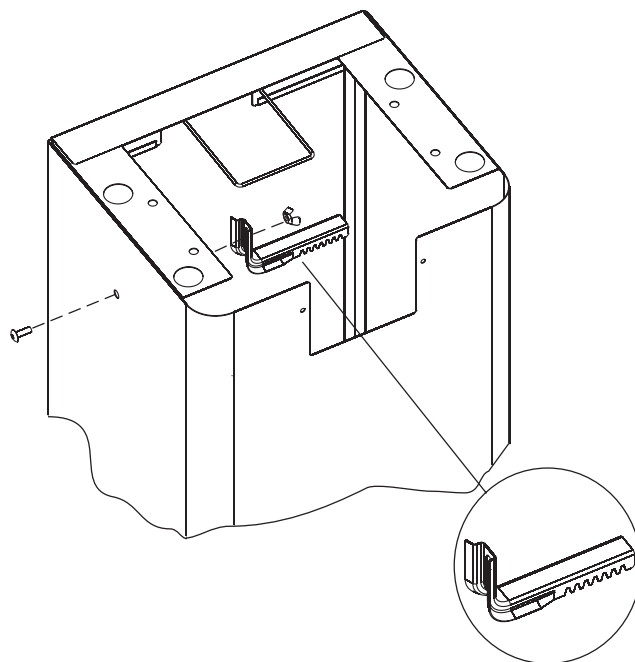

FIGURE 3
Install one 1/4-20 x 3/4 phillips head screw into the factory installed nut on the Left Side of cart. Figure 3.
Fasten the Cylinder Retainer (3) to the screw with a wing nut. Adjust height to accommodate your LP cylinder. Figure 3.